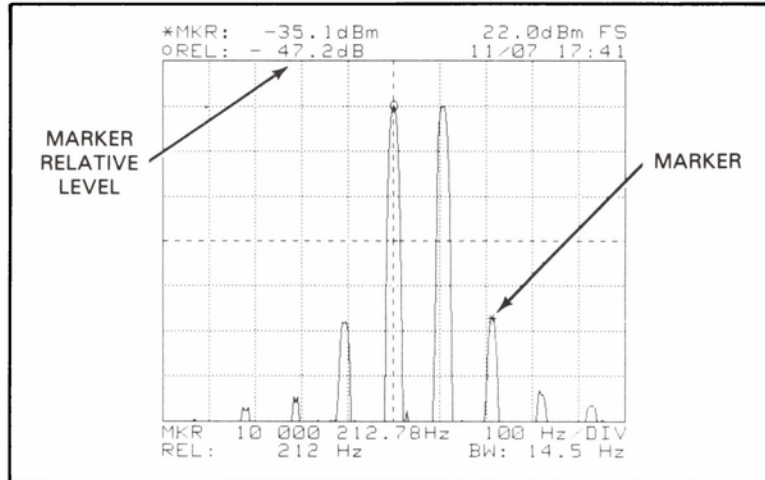

Figure 7-7. Intermodulation Distortion Test Sample Results
g. Move the -hp- 3582A marker to the peak of the signal at approximately 10 000 200.0 Hz. Measure the relative signal level and record the result on the Performance Test Record card. The signal should be at least 40 dBm below the 10 MHz reference signal (See Figure 7-7).